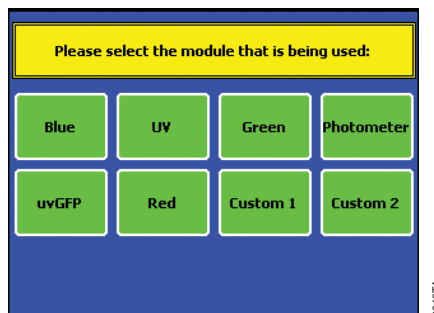

Figure 5. Entry Screen.
5. If you have installed a Fluorescence or Absorbance Module, the touch screen will display an entry screen with all of the module options (see Figure 5).